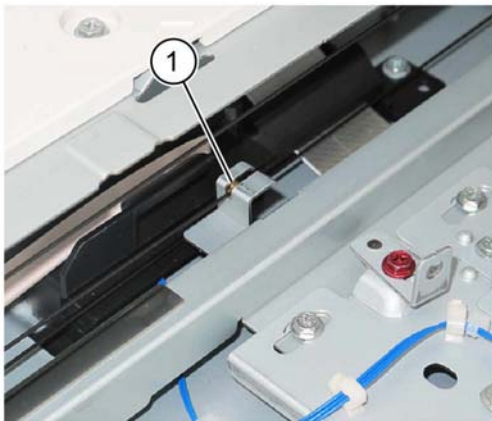

Figure 5 Cable removal
9. Remove the anchor ball (1) from the notch in the frame, then remove the carriage cable, Figure 5.